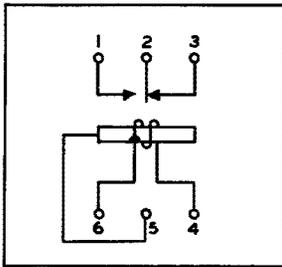

Fig. 70 - Winding and Spring Terminal Numbering as Viewed From the Bottom - 294-Type Relay
2.77 The winding and spring terminals of the 294-type relays, as viewed from the bottom are designated as shown in Fig. 70.